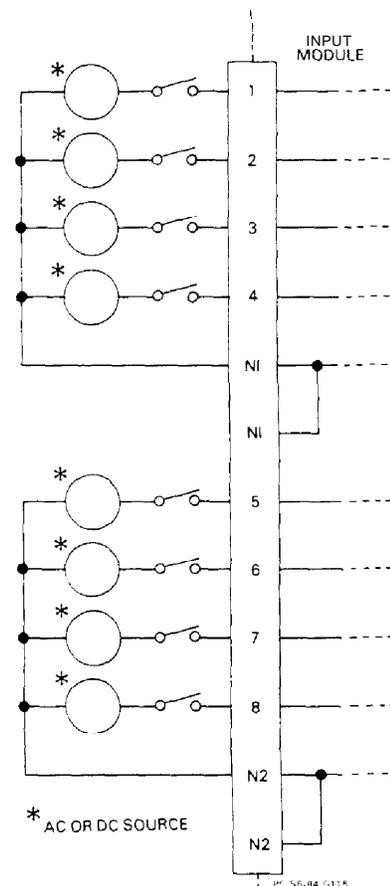

FIGURE 3. TYPICAL USER INPUT CONNECTIONS
4. Refer to Figure 3. Connect one side of the user circuit to the appropriate input terminal (1 through 8). Circuits connected to inputs 1 through 4 must have their opposite sides connected to either of the N1 terminals. Likewise, circuits connected to inputs 5 through 8 must have their opposite sides connected to either of the N2 terminals.
In reference to Figure 3, note that wires connected to the N1 terminals are at the same potential, as are wires connected to the N2 terminals.